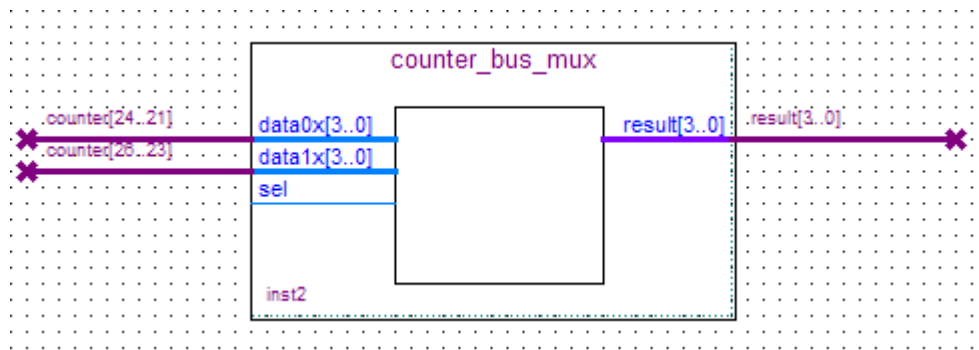

Figure 6-37 Renamed counter_bus_mux Bus Lines
- h. Click **OK**. **Figure 6-37** shows the renamed busses.